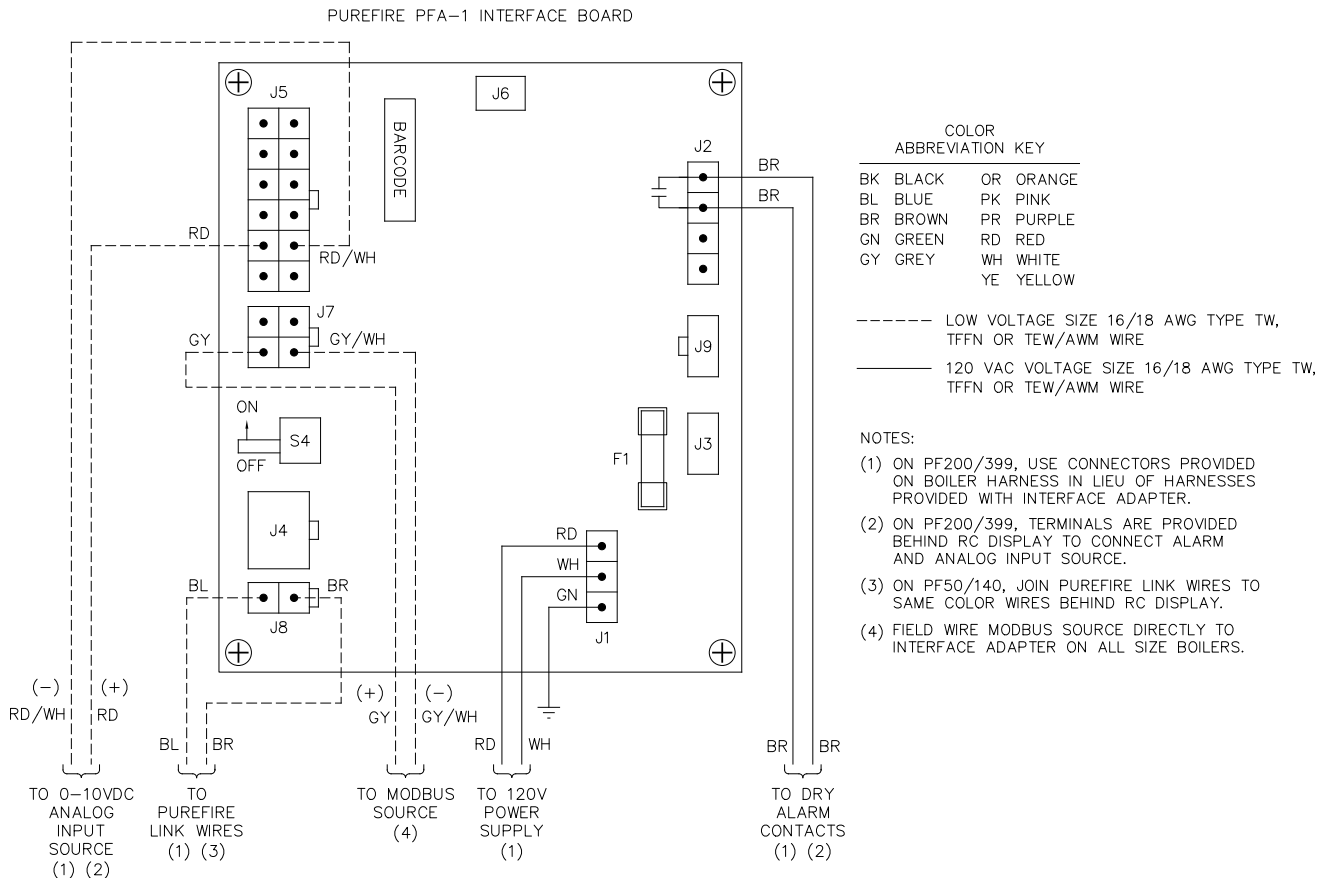

Figure 3: Electrical Wiring
- Figure 3 shows customer wiring connections for the PFA-1 Interface Board.
For external control of setpoint temperature or input rate of a PUREFIRE® Boiler, a 2-10 volt dc analog signal is to be applied as shown in Figure 3 to the analog input wires.